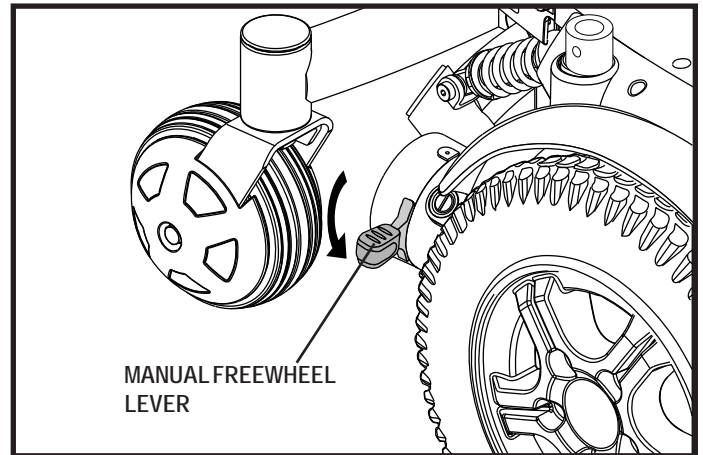

Figure 4. Drive Mode (Drive Engaged)
1. Push down both manual freewheel levers for free-wheel mode (drive motor disengaged). **See figure 4.**